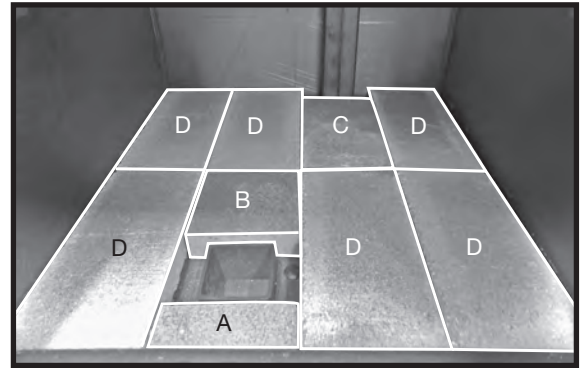

Figure 19: Firebricks on floor.
1. Install the floor firebricks; For units **without an Ash Dump** use full size "D" bricks See "Figure 19: Floor layout without ash dump." on page 24. For unit **with the Ash Dump** installed, 2 small bricks ("A & B" in Fig 20) will be used on either end of the ash dump in addition to the regular sized "D" bricks used in the rest of the installation.